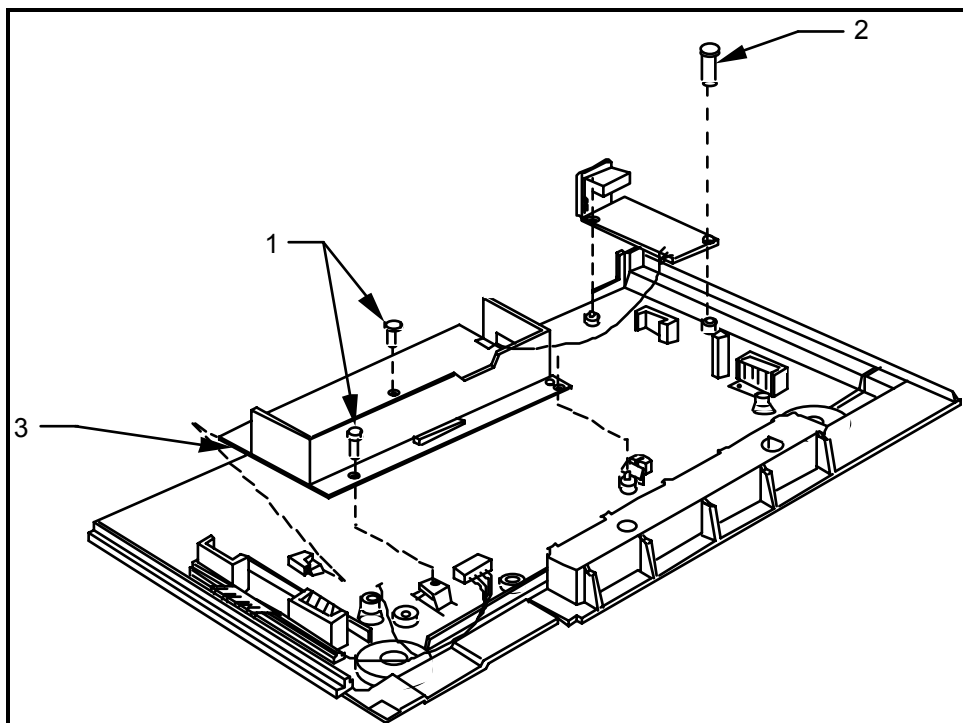

Figure 17-9 — Replacement of Power Supply PWA (ALI4X) 3315
Numbers on illustrations in Figure 17-9 refer to the steps which follow.
- Step 3. Release the power supply board from pins and catches in the printer base as shown in Figure 17-9. Remove the power supply and line filter boards together.